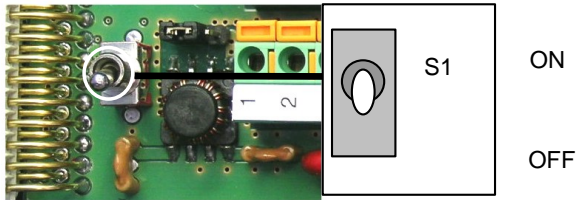

Figure 6 - Power switch ON/OFF positions
Switch ON the C-BOX 3X0 power switch (see Figure 6).
The power switch (see Figure 6) switches the power supply ON or OFF for both the C-BOX 3X0 and the connected scanner.
- 2) Verify that the C-BOX 3X0 power switch is off (see Figure 6).